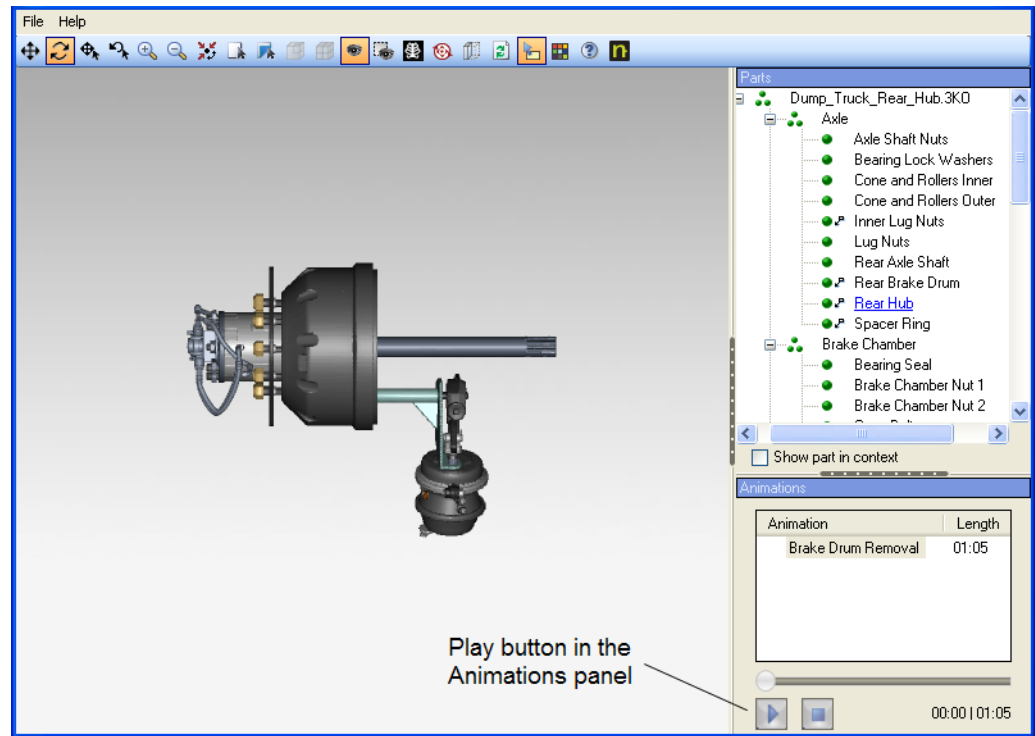
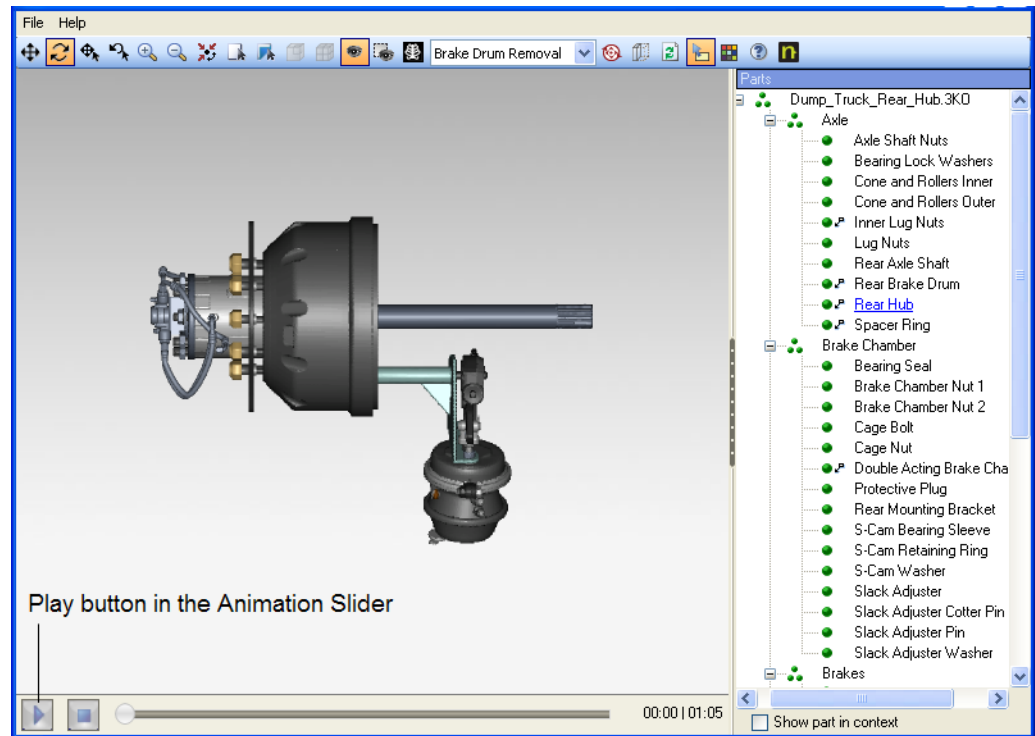

Figure 2.11 Click the Play button in the Animations panel, if included.
Figure 2.12 Click the Play button on the Animation Slider, if included.
- 2 Click the **Play** button  in the **Animations** panel (see Figure 2.11) or on the Animation Slider (see Figure 2.12).